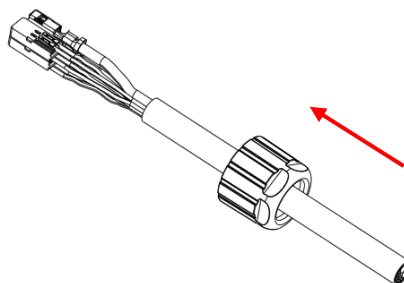

Figure 29
2. Insert the gland nut through the other end of the cable (Fig 29).